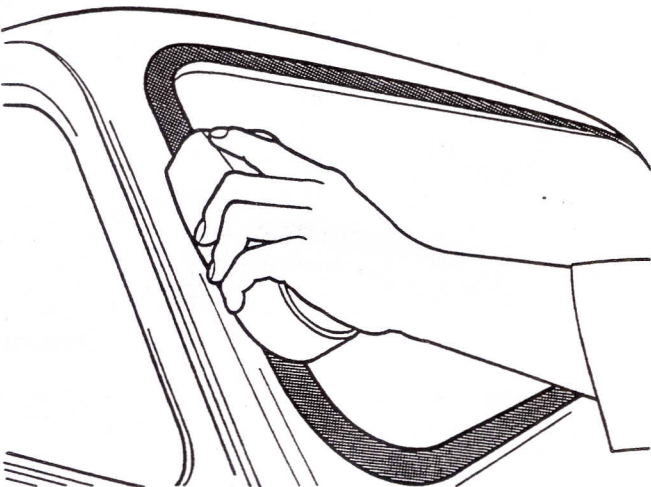

Figure 6
5. The windscreen seal will benefit from a light but firm tapping along its entire length to assist in the settling process. This should be done ideally with a sand filled bag or similar such fitting aid. See Figure 6.